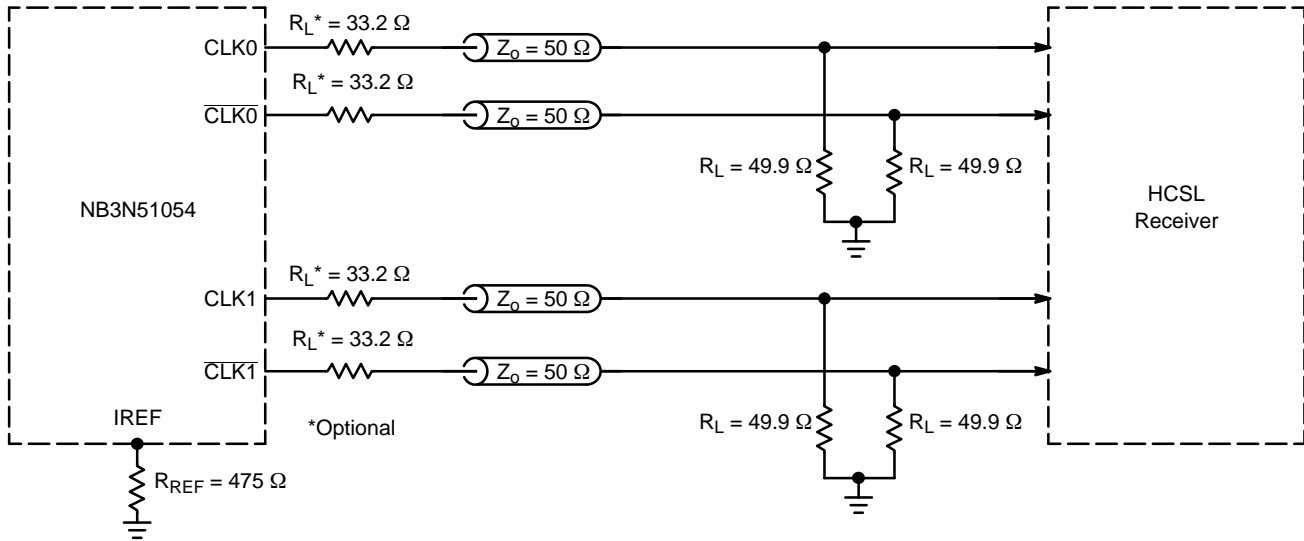
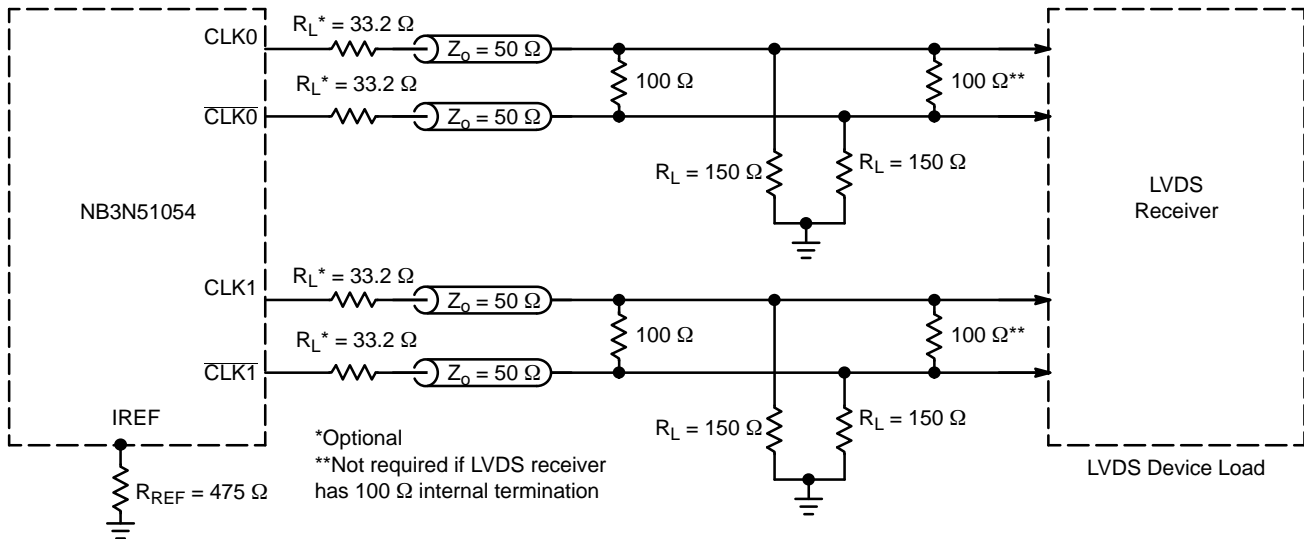

Figure 6. Typical Termination for HCSL Output Driver and Device Evaluation
Figure 7. Typical Termination for LVDS Device Load
- Measurement taken with outputs terminated with R_S = 33.2 Ω, R_L = 49.9 Ω, with test load capacitance of 2 pF and current biasing resistor set at R_{REF} = 475 Ω. See Figure 6. Guaranteed by characterization.
9. Measurement taken from differential output on single-ended channel terminated with $R_S = 33.2 \Omega$, $R_L = 49.9 \Omega$, with test load capacitance of 2 pF and current biasing resistor set at $R_{REF} = 475 \Omega$. See Figure 6. Guaranteed by characterization.
14. Measurement taken from differential output on single-ended channel terminated with $R_S = 33.2\ \Omega$, $R_L = 49.9\ \Omega$, with test load capacitance of 2 pF and current biasing resistor set at $R_{REF} = 475\ \Omega$. See Figure 6. This parameter is guaranteed by characterization. Not tested in production
The outputs can be terminated to drive HCSL receiver (see Figure 6) or LVDS receiver (see Figure 7). HCSL output interface requires 49.9 Ω termination resistors to GND for generating the output levels. LVDS output interface may not